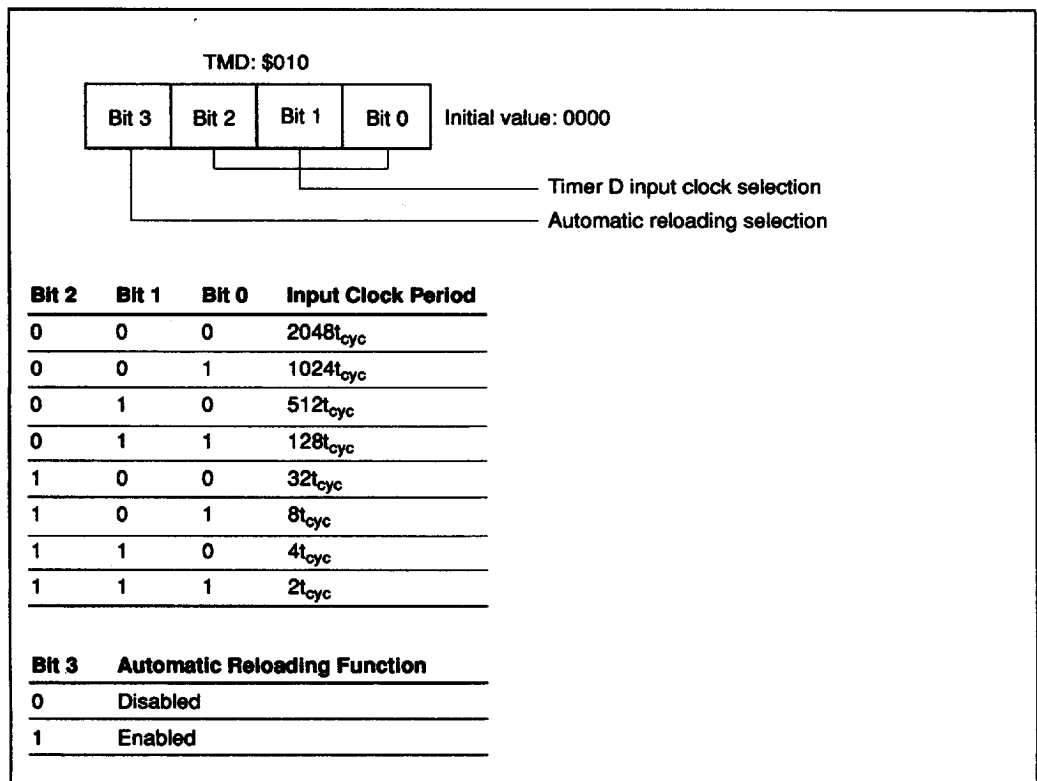

Figure 32 Timer Mode Register D
**Timer Mode Register D (TMD: \$010):** Four-bit write-only register which selects the automatic reloading function and the prescaler division ratio for timer D as shown in figure 32. It is initialized to \$0 by MCU reset.